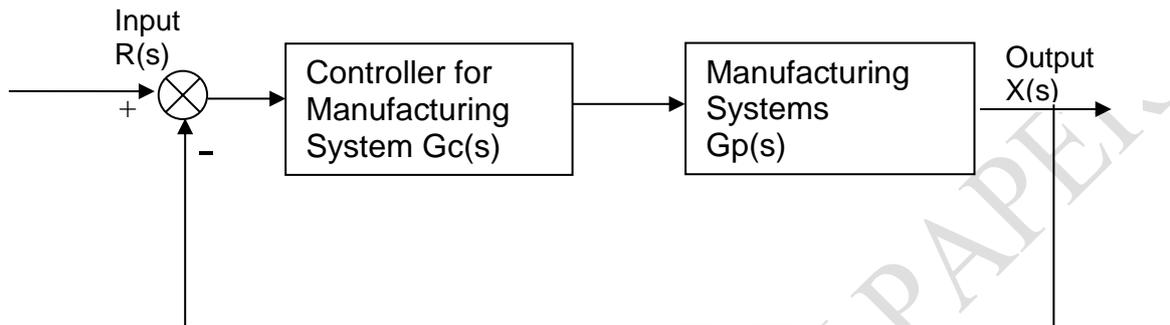

Figure Q4 A manufacturing automation control system
Q4. A simplified model of a manufacturing automation control system is shown in Figure Q4. The manufacturing system is given by the transfer function as:
b) If a velocity feedback is introduced into Figure Q4 and suppose $G_c(s) = 10$, draw a block diagram with the velocity feedback and determine the velocity gain K_v for the damping ratio to be increased to 0.85.